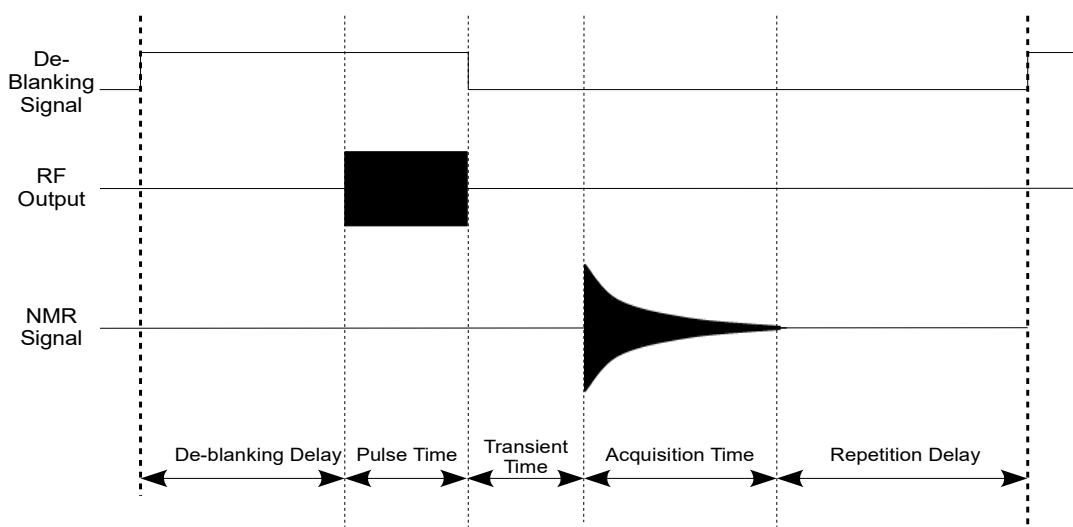

Figure 10: Timing diagram for one single pulse NMR scan (not drawn to scale).
5. Edit the singlepulse_nmr_example.bat batch file by right-clicking and selecting “edit” and save the batch file when finished. The timing values in the batch file correspond to those in Figure 10, on the following page.